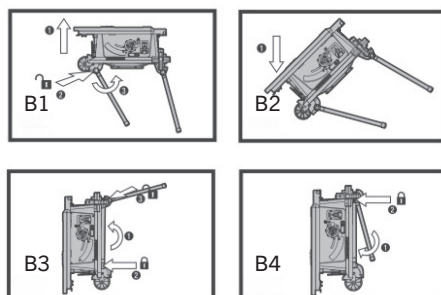

FIG. 2
2. Lift the table from the end (A3) to allow the lower leg to swing into place. Swing the leg fully into position and lock it (A4) (see Fig.2).
Hold and support the table edge, unlock the legs at the wheel end (B1). Lower the wheels to the ground, allowing the legs to swing under (B2). Stand the table on end, fold up and lock the lower legs, unlock the upper legs (B3). Swing down the legs and lock (B4)(Fig.2).